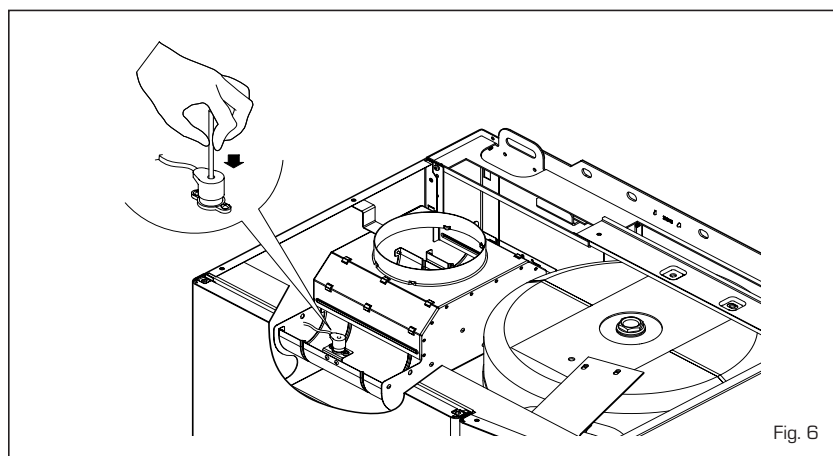

Fig. 6
- Smoke safety device vers. "25/60" (fig. 6)